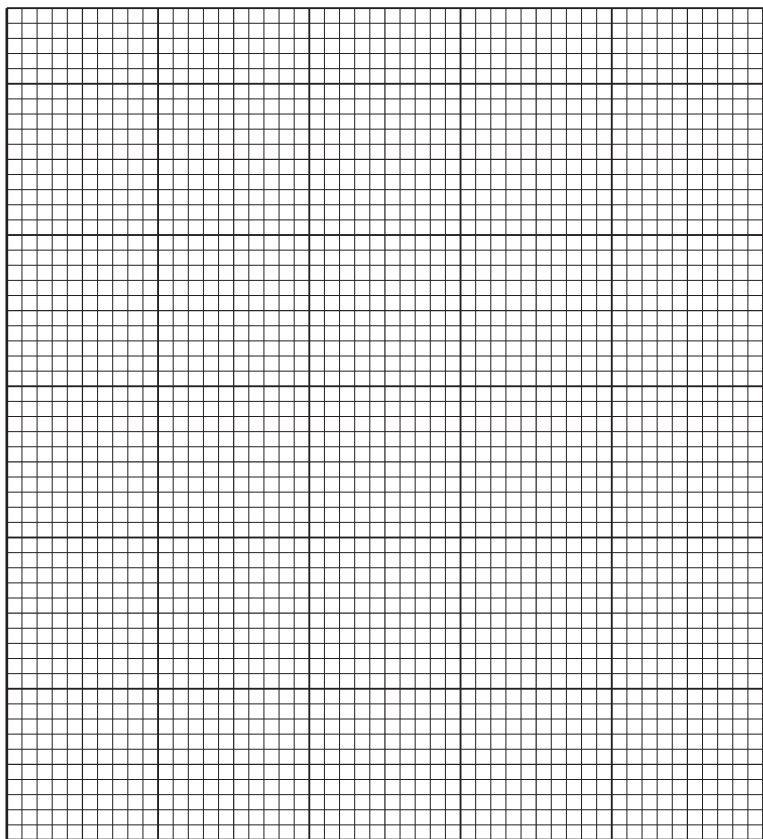

Fig. 1.3
- (i) Plot a graph of the data in Table 1.3 on the grid in Fig. 1.3.
- (ii) Draw **two** lines on your graph in Fig. 1.3 to show the concentration of inhibitor that causes 24% inhibition of sucrase. [1]